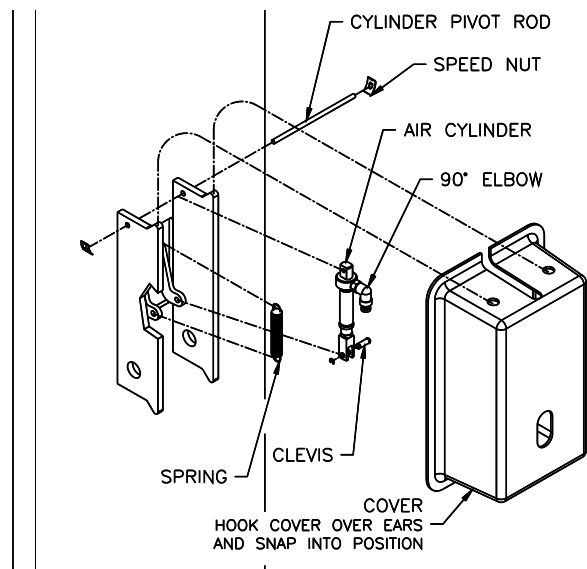

Fig. 2 – Locking Pawl Assembly
- 4) Install the locking pawl, actuator, and spring (**Fig. 2**). Adjust air cylinder clevis to retract lock against inside of back of column when air cylinder is fully extended. Tighten air cylinder clevis jam nut against clevis.